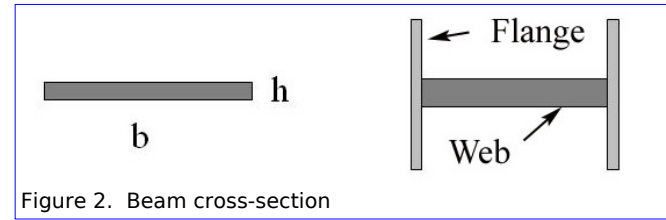

Figure 2. Beam cross-section
where the height, **h**, is the dimension that is parallel to the direction in which the beam will buckle. The base, **b**, is the dimension perpendicular to this direction (see Fig. 2), and since $A=bh$, Eqn. (2) can be written as